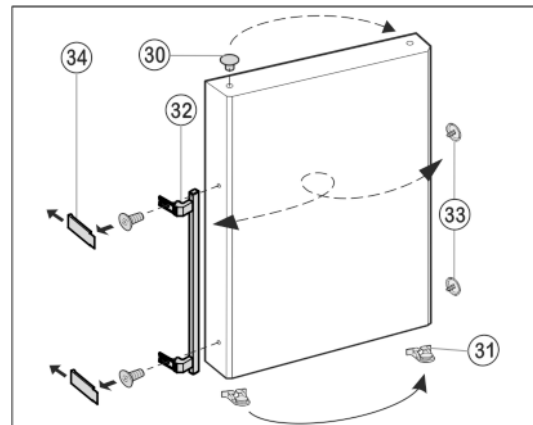

Fig. 12
- ▶ Lift the stopper *Fig. 12 (30)* out of the door bearing bush and transfer it.
- ▶ Detach door handle *Fig. 12 (32)*, stopper *Fig. 12 (33)* and pressure plates *Fig. 12 (34)* and transfer to the opposite side.